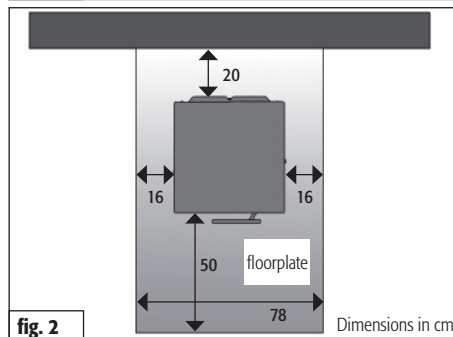

fig. 2
**The size of the floorplate must be larger than the base of the stove by at least 50 cm in front and at least 16 cm at the sides of the stove (fig. 2).**